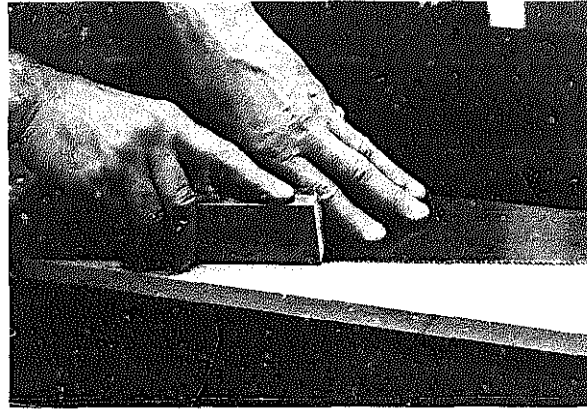

Fig. 7-16 Dressing the teeth of a handsaw.
1. Place the blade of the saw on a flat surface as shown in figure 7-16.